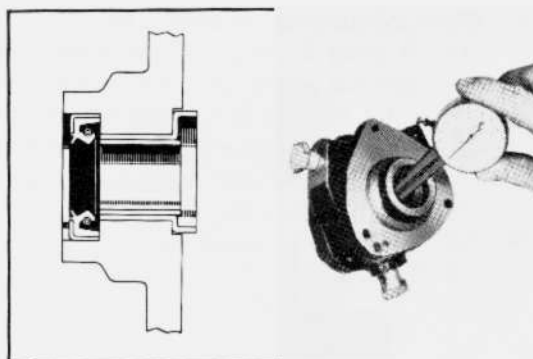

Fig. 7-67 Oil Seal & Bearing Inspection
2. The vacuum pump oil seal should be inserted in fully as shown in Fig. 7-67.